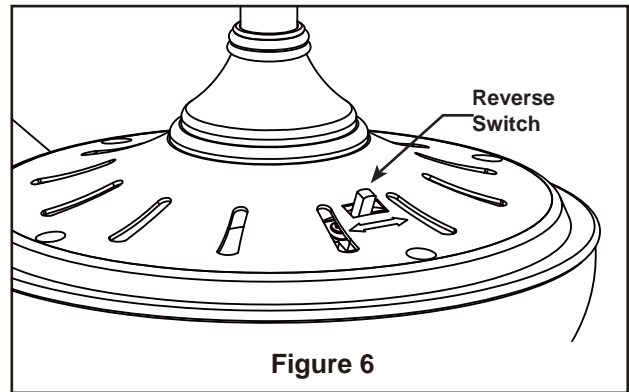

Figure 6
- 6.** Secure glass bowl to light fitter using supplied nut. Next, install trim cover followed by the finial. Do not over tighten. (Figure 6)
6. If airflow is desired in the opposite direction, turn the fan off and wait for the blades to stop turning. Then slide the reverse switch on top of motor assembly to the opposite position and turn fan on again. (Figure 6)